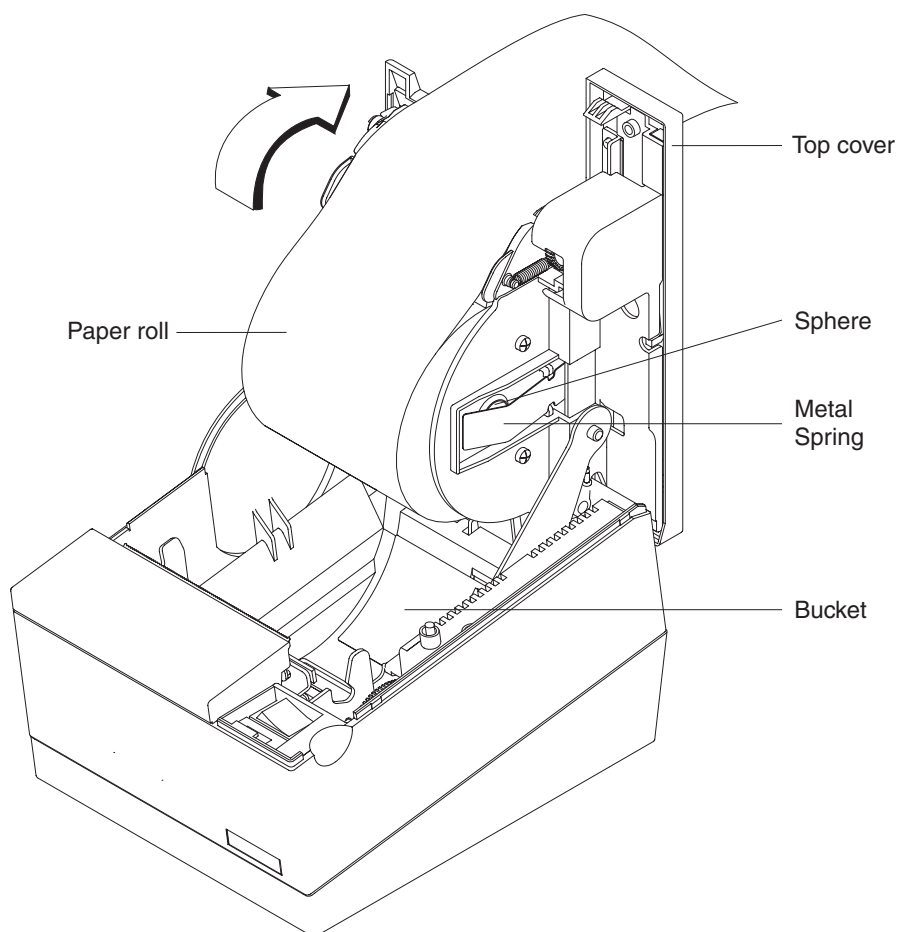

Figure 37. Paper Loading Path (Models TF6 and TM6)
3. If the printer is configured for "snap in" paper loading (two white spheres are present behind the metal springs) then place the paper roll onto the paper roll holder as shown in Figure 37 on page 72 otherwise, merely drop the roll into the bucket. The leading edge of the paper should come from the direction of the back of the printer and go across the bottom of the roll as shown in the diagram.